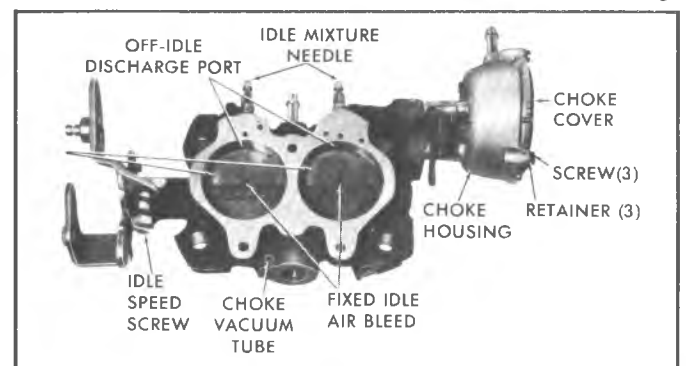

Fig. 7C—Throttle Body
1. Remove the three choke cover attaching screws and retainers, then remove thermostatic coil and cover assembly and gasket from choke housing (Fig. 7C).
1. Install idle speed screw and spring assembly in throttle body if removed (Fig. 7C).
9. Install choke thermostatic coil and cover assembly with new gaskets and end of coil below plastic tang on the inner choke housing lever. Refer to automatic choke coil adjustment (Service) to index cover. Install three choke thermostatic coil retainers and screws. Tighten securely (Fig. 7C).